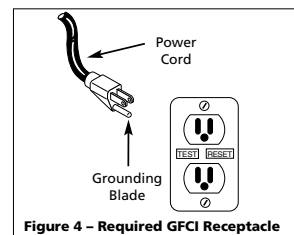

Figure 4 – Required GFCI Receptacle
1. A ground fault circuit interrupter (GFCI) is required (See Figure 4).
3. Insert the PS/BC power cord plug directly into the GFCI outlet (See Figure 4).